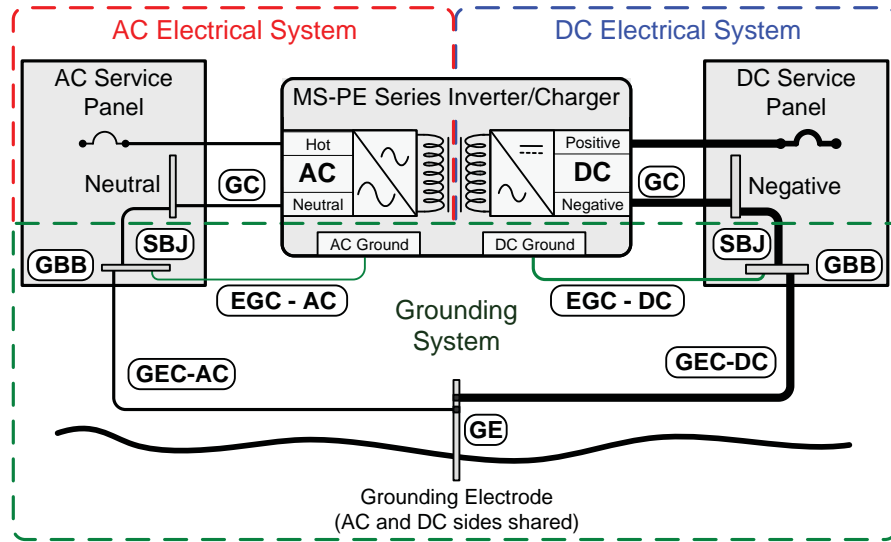

Figure 2-12, Multiple Connections to DC Ground Rod (Method 2)
- Method 2 (Figure 2-12):** When the AC and DC service panels are near each other, the AC grounding electrode conductor (GEC-AC) and the DC grounding electrode conductor (GEC-DC) can be connected to a single grounding electrode (GE). In this method—since there are multiple connections to the DC grounding electrode (GE-DC)—the size of the DC grounding electrode conductor (GEC-DC) cannot be smaller than the largest conductor in the DC system (usually the battery-to-inverter cable).